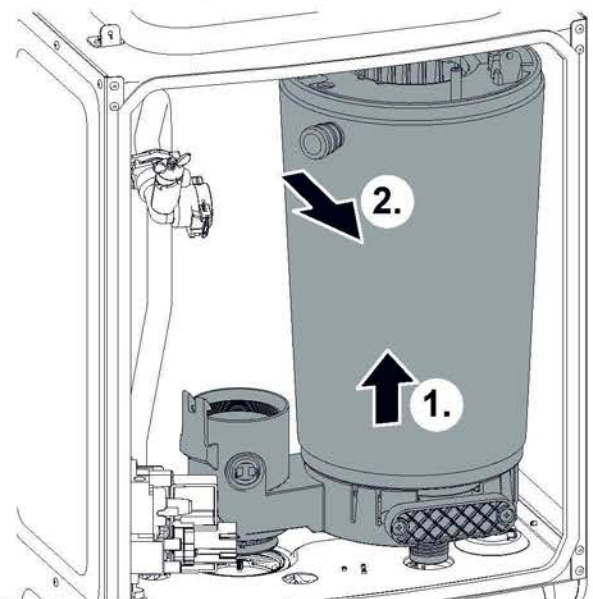

Fig. 92 Heat exchanger removal
1. Refer to figure 92 and lift the heat exchanger up to clear.